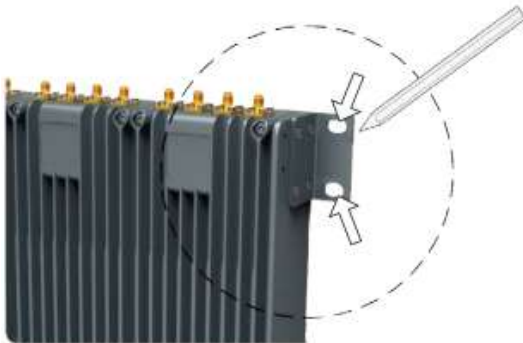

Figure 18. Marking the position of mounting holes
1. Hold the EU-O to the installation location and mark the position of the 4 mounting holes in the mounting brackets; see arrows in Figure 18.